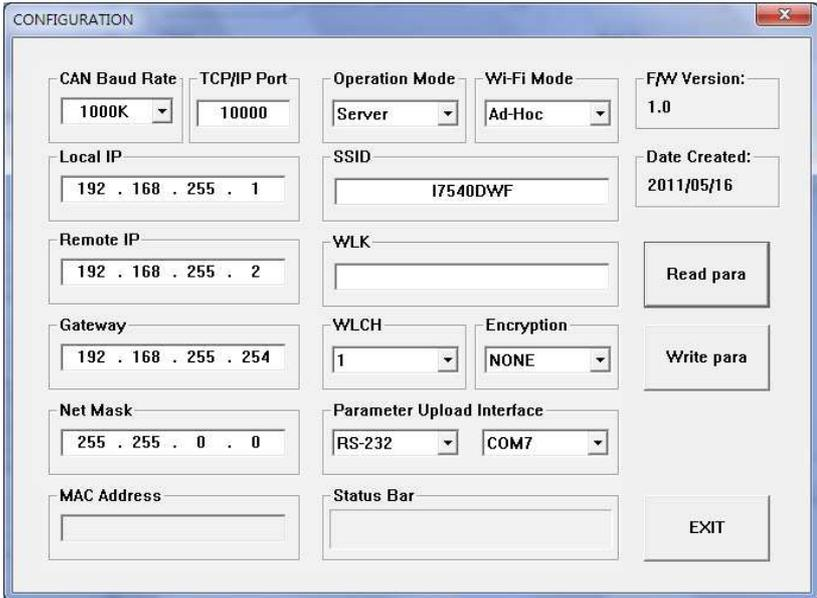

Figure 16: Server connection mode
- 01、CAN Baud Rate : It can help users to set the CAN bus baud rate according to the actual connection. The case is set as 1000K bps in Figure 16
- 02、TCP/IP Port : This field is used to set TCP/IP port of Connection according to the actual conditions. The case is set TCP/IP port as 10000 in Figure 16